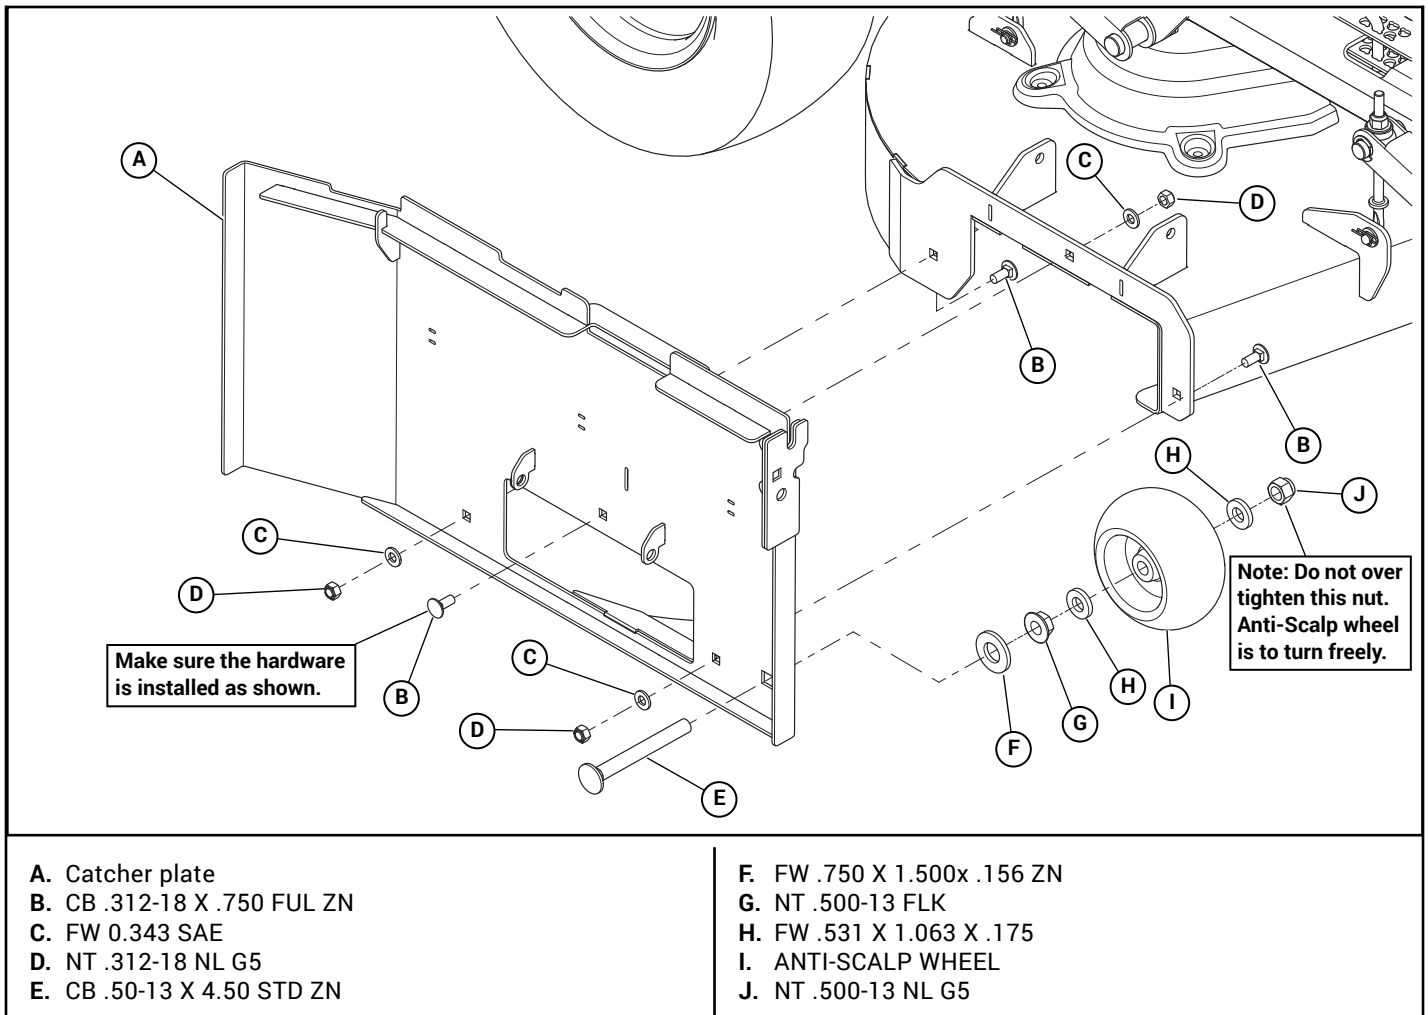

Figure 3-2
2. Attach the catcher plate to the deck as shown. Figure 3-2
3. Attach the anti-scalp wheel to the front of the catcher plate as shown. Figure 3-2